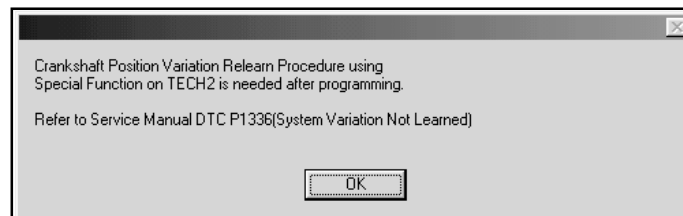

Figure I-13, Crankshaft Position Variation Relearn Procedure
- 2.12 Most GM vehicles will require the Crankshaft Position Variation Relearn Procedure (Figure I-13) be performed after reprogramming the PCM/VCM. A box should appear directing you to use the Special Functions feature of the Tech 2 scan tool to perform this procedure. It may be necessary, even if this box does not appear during the reprogramming procedure. If Crankshaft Position Variation Relearn Procedure is listed under Special Functions, you need to perform the procedure. Click **OK**.